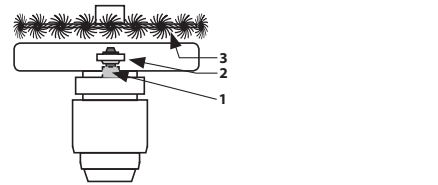

Fig. 13C
- Angle grinders intended for disc diameters of 115 mm or 125 mm can be used for wire cup brushes with a diameter of 65 mm. Wire cup brushes with a larger diameter are too heavy for these angle grinders, which manifests itself by means of high vibrations, which will damage the angle grinder. Wire cup brushes with a diameter of 75 or 80 mm are intended for angle grinders intended for a disc diameter of 150 mm, and wire cup brushes with a diameter of 100 mm are intended for angle grinders with a disc diameter of 230 mm. The maximum permitted diameter of a radial braided brush for angle grinders intended for 115 mm discs is 100 mm. For 125 mm angle grinders it is 115 mm and for larger angle grinders it is 125 mm. Install the radial brush (fig. 13C) on to the spindle of the angle grinder 1 on the bottom washer 2 in the orientation shown in fig. 13C, i.e. with the brushes facing upwards, and then firmly tighten it using a wrench. In order to ensure the protection of the user, the wires of the brush must not touch the guard and at the same time the brush must not protrude above the guard. Without the washer (2), the wires will touch the guard, which is forbidden.